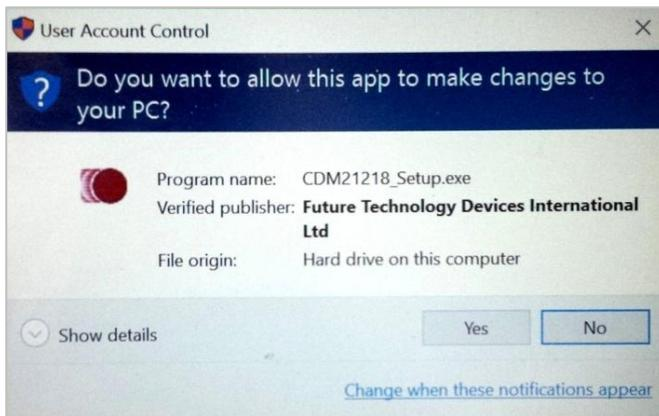

Figure 2-2: Request to Install FTDI CDM Driver
5. It requests the permission to install FTDI CDM driver as Figure 2-2 shows. Click the **Yes** button to continue.